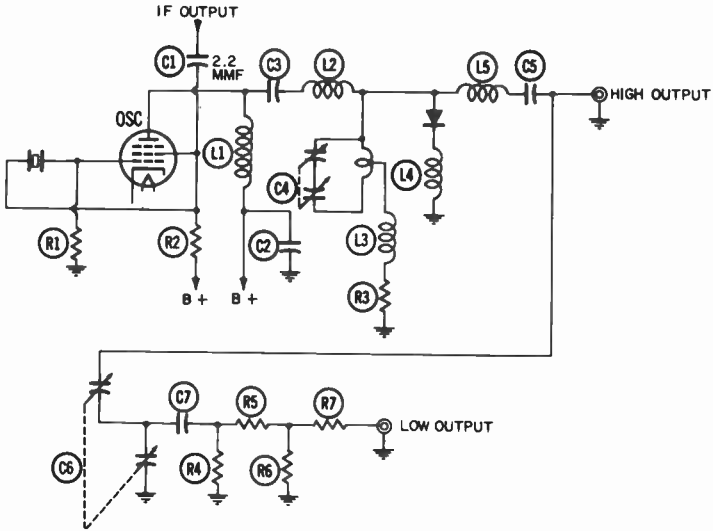

Fig. 10-33. DuMont frequency meter used as crystal-controlled signal generator.
Three signal output jacks are provided. Two are coaxial types, one for the high and one for the low output, plus a tip jack for the high-level IF output signal. As shown in the simplified schematic of Fig. 10-33, the IF output can be obtained at (1) the pin jack, fed directly through C1 from the screen of the oscillator tube; (2) the high-output jack, fed from the plate of the tube; or (3) the low-output jack,